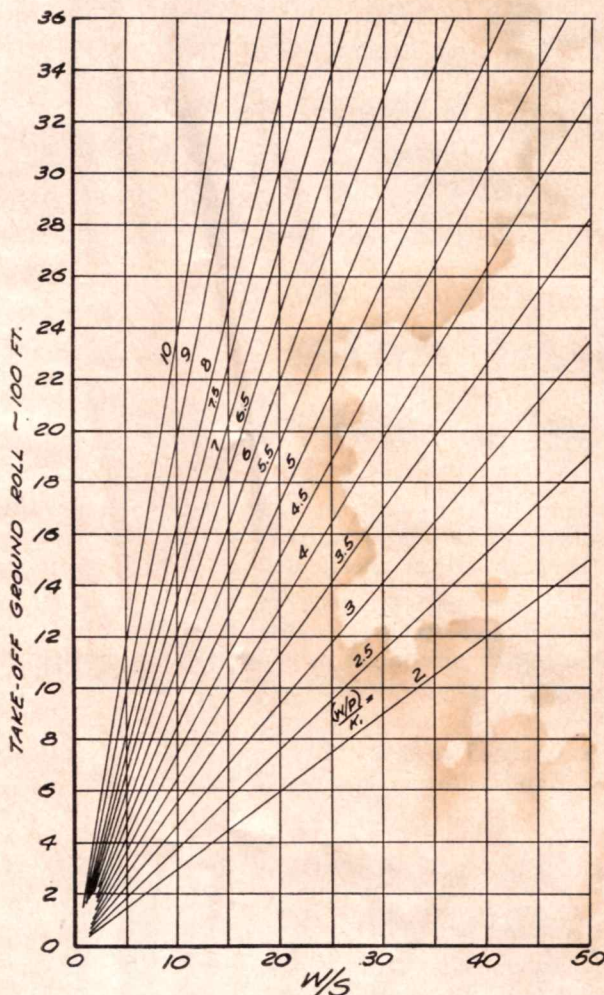

Figure 2—Take-off ground roll (no flaps).
Equation (7) was plotted in Fig. 2, 3, and 4, where the following values were assumed: